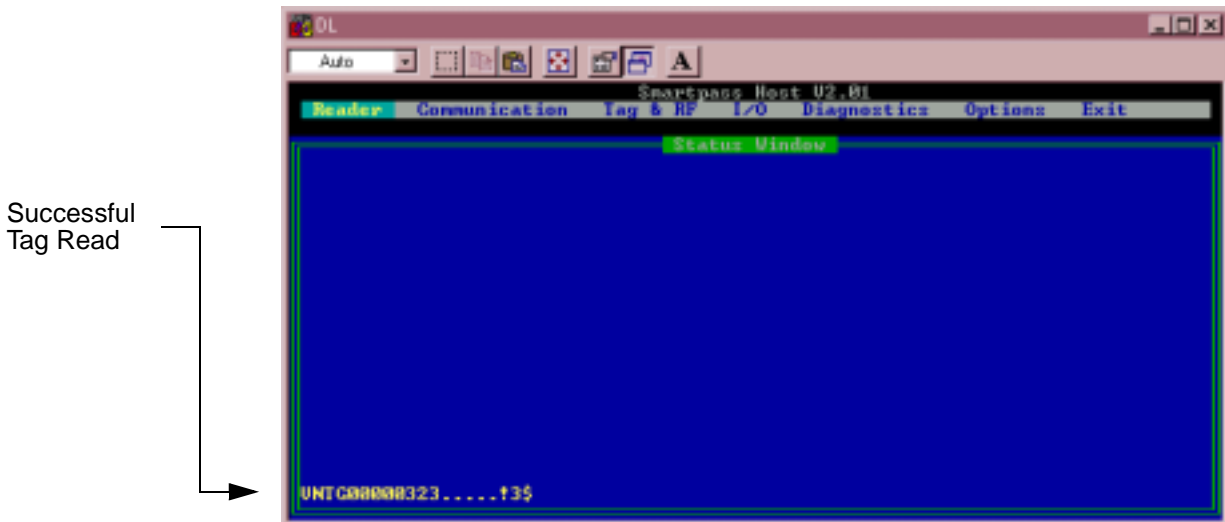

Figure 1-17 Successful Tag Read
1. Pass one test tag in front of the unit. If SmartPass reads the tag, SmartPass Host displays the tag information at the bottom of the status window, as shown in Figure 1-17.